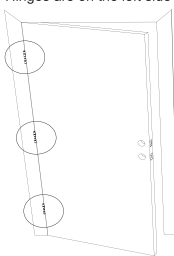

Figure 4a
- a. If the hinges are on the left, your door is Left Handed (Figure 4a).